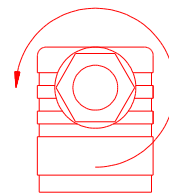
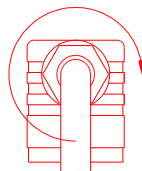

Abb. 8
Abb. 10
- Loosen the PG9 cable gland (pos. 5, fig. 8).
- Pull the cable through the cable gland (pos. 5), the pressure ring (pos. 10) and the rubber insert (pos. 9) into the plug and connect the wires acc. To the wiring plan.
- Reassemble the plug (pos. 2).
- Tighten the PG9 cable gland (pos. 5, fig. 10).
- Connect the plug (pos. 2) with the socket (pos. 1) and tighten the central screw (pos. 6) an.